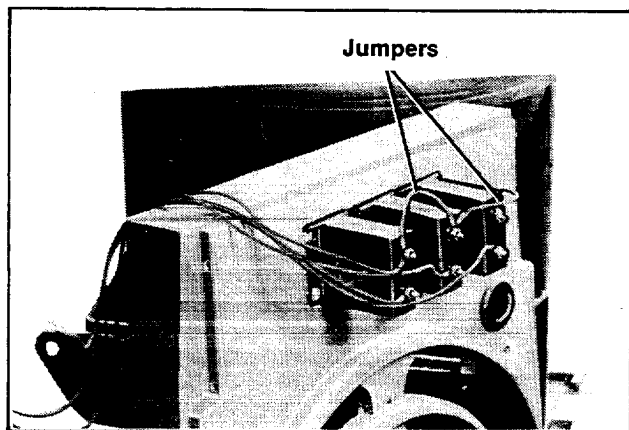

Figure 2. Mounting Current Transformers
5. When mounting the current transformers, the ground stud may have to be loosened and the leads repositioned to allow mounting space for current transformers. Place current transformers with white dot of the middle transformer opposite end transformers. Mount to generator adapter as shown in Figure 2.